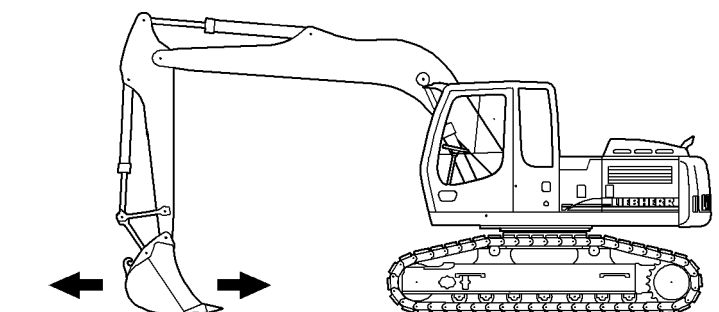

Fig. 3-125 Skimming
- To skim with a backhoestick bucket, lay this on the ground (siehe Fig. 3-125) and move the stick slowly forwards and backwards. Move the boom steadily up and down while the stick is moving.